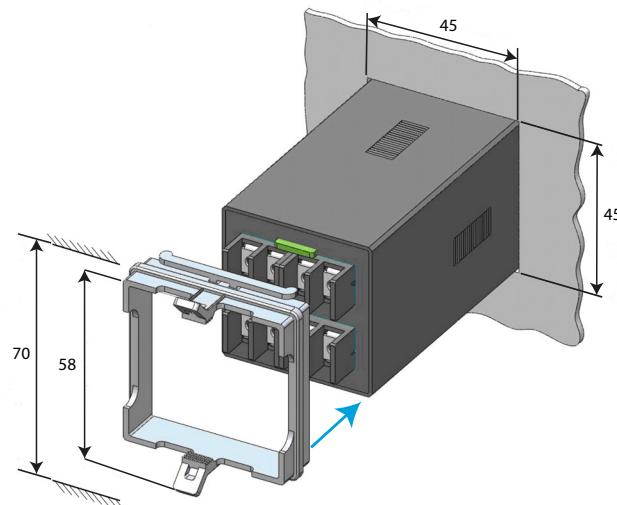

Figure 2: Installation.
- 2.- Remove the device's mounting frame (**Figure 2**).